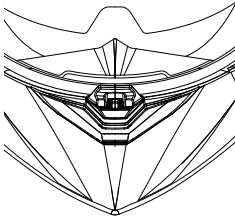

FIGURE 2
**FRONT AIR INTAKE CHIN — E — Figure 2/3**
- Figure 2: air intake closed.